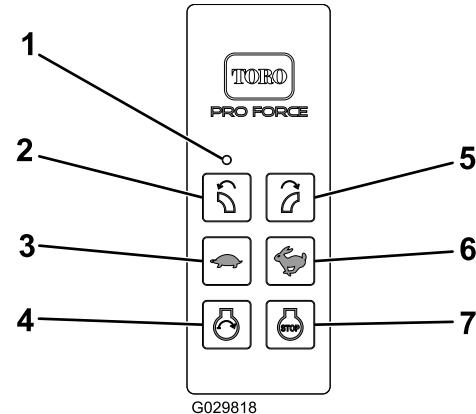

Figure 13
4. Engine Start only becomes energized by pressing the Start button while the Engine Start Enable Condition is active. The Engine Start Enable Condition becomes active only when you have performed the following Engine Start Enable Sequence (Figure 13):